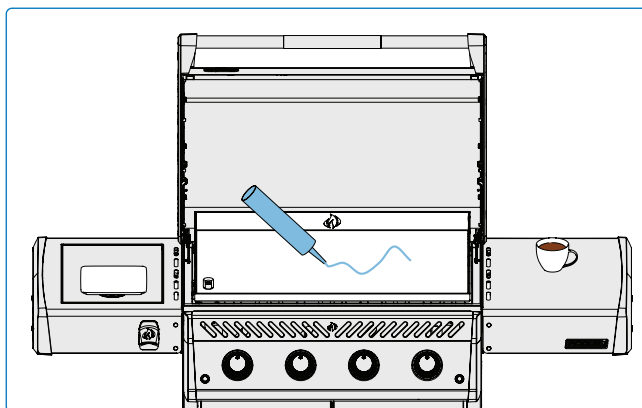

Fig. 10
- The griddle plate should be oiled before cooking to prevent food from sticking. See **“Can you Season a Stainless Steel Griddle?”** section. **(Fig. 10)**